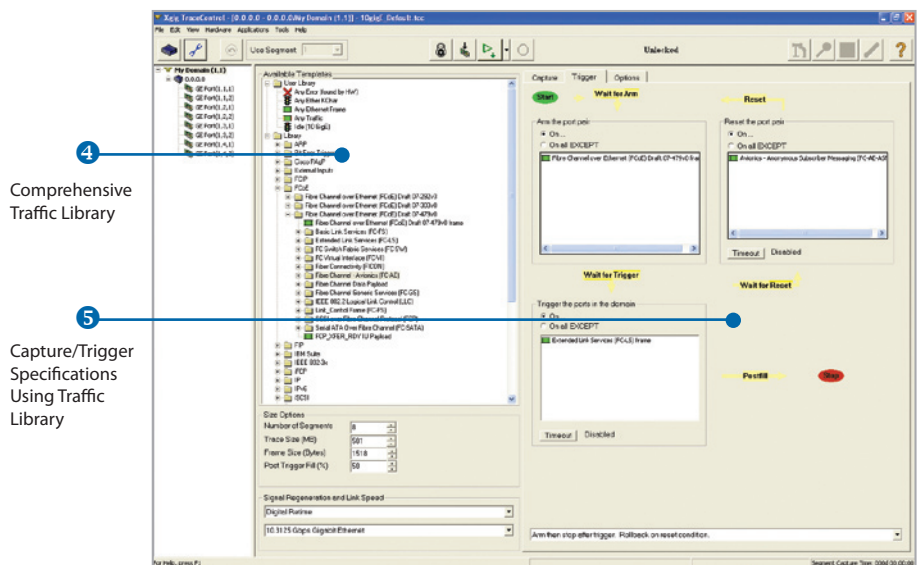

Figure 2: Xgig TraceControl
TraceControl (see Figure 2) enables users to specifically define the operating conditions under which the Xgig Analyzer captures data. With its **advanced triggering capabilities**, TraceControl eliminates huge trace files and tedious manual searches by allowing users to capture exactly the data they need to resolve network issues quickly and efficiently. For example, configure TraceControl to trigger on a specific network traffic condition (such as a certain frame type) before initiating capture. In addition to providing a **comprehensive Traffic Library** ④ of pre-defined templates for frames, ordered sets, and errors, Xgig also enables defining **Capture/Trigger Specification Using Traffic Library** ⑤ to support multi-level trigger events, including timeouts, missed events, and a wide range of specific conditions.